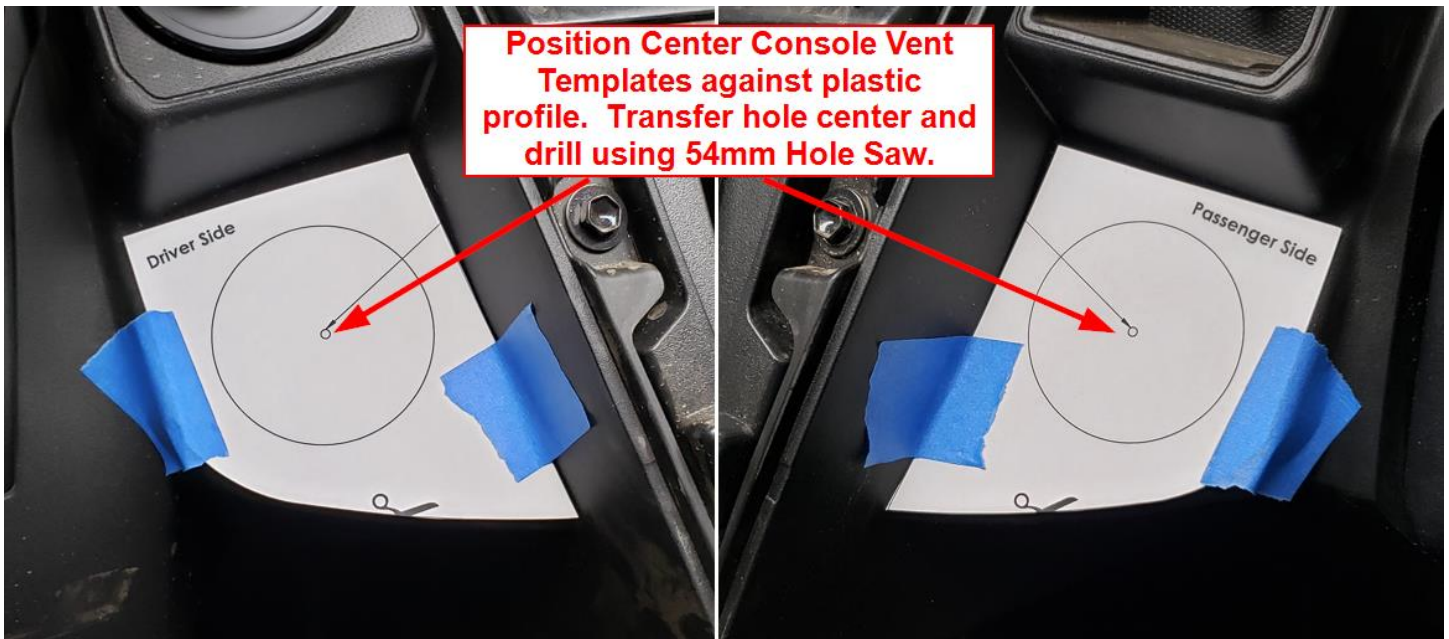

Figure 16
- c. Cut out the Driver and Passenger Side Center Console Templates and position them as shown in Figure 16. Mark the hole centers and drill using the 54mm Hole Saw included in the kit. Deburr as necessary and cut the "V" shaped notch as mentioned before.